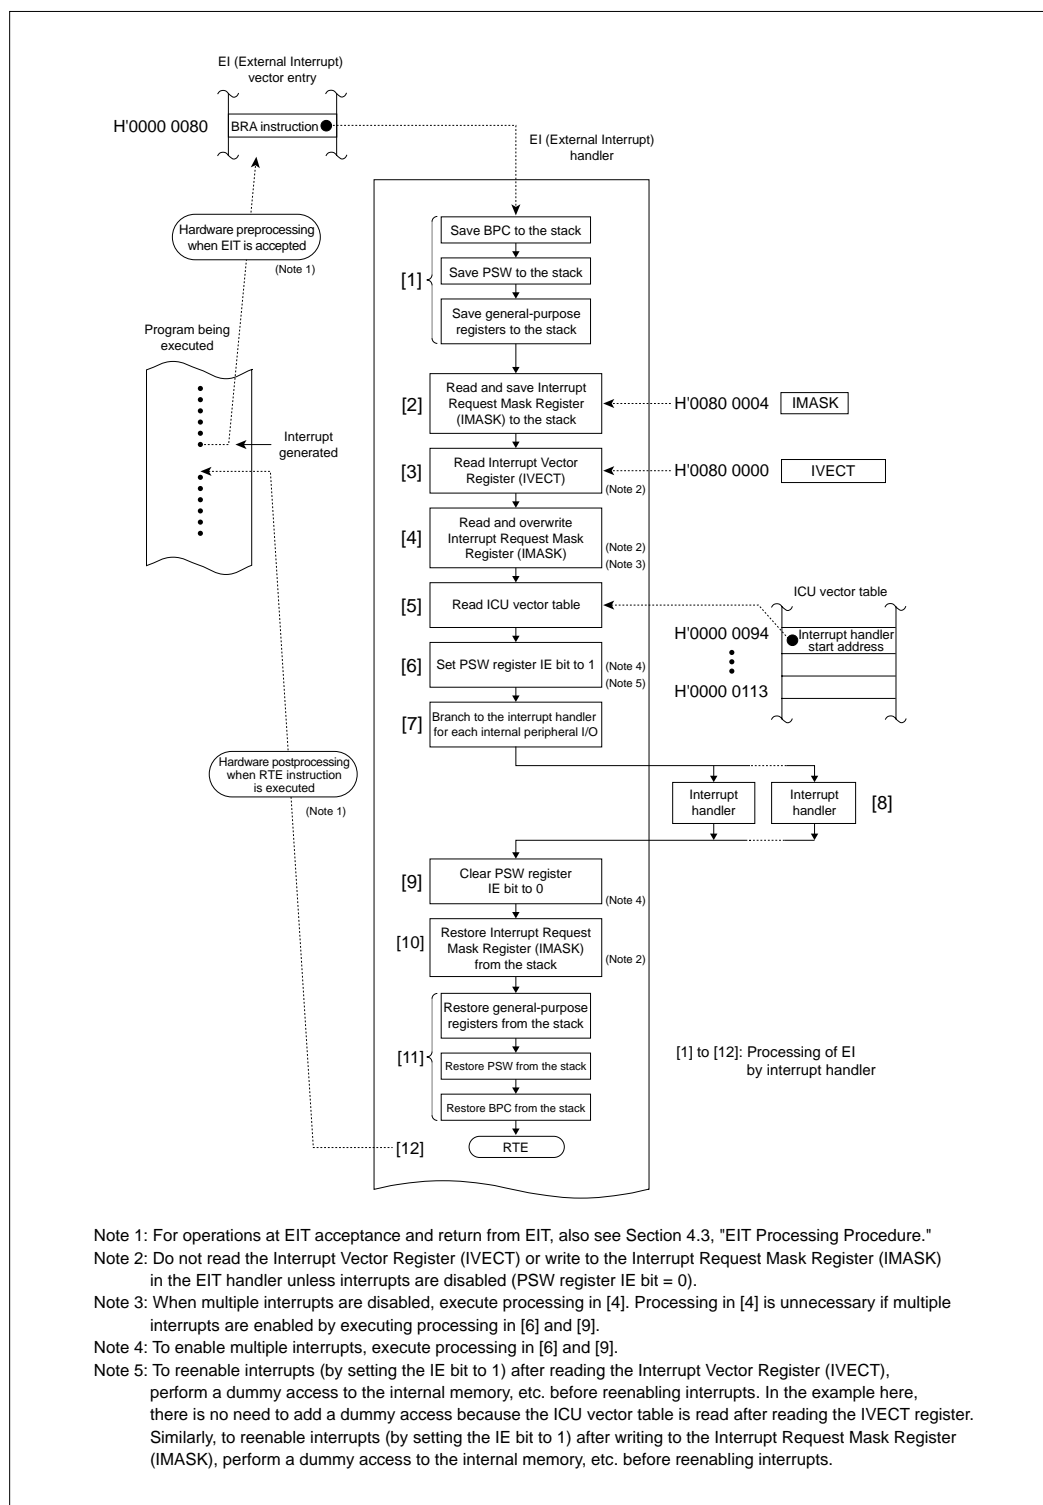

Figure 5.5.2 Typical Operation for Interrupts from Internal Peripheral I/O
A typical operation of the External Interrupt (EI) handler (for interrupts from internal peripheral I/O) is shown in Figure 5.5.2.
Note: • Before enabling multiple interrupts, read the Interrupt Vector Register (IVECT) and then the ICU vector table, as shown in Figure 5.5.2, "Typical Handler Operation for Interrupts from Internal Peripheral I/O."